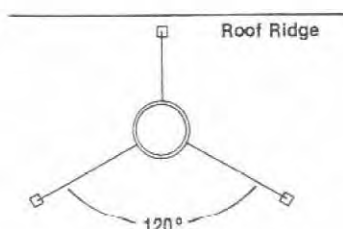

Figure 35
**Note:** If chimney extends more than 8' (2.4 m) above roof line, guy wires are also recommended. Use three (3) guy wires, attach to locking band assembly, extend and secure to roof in a triangular pattern (Figure 35). Guy wires not supplied by Superior.